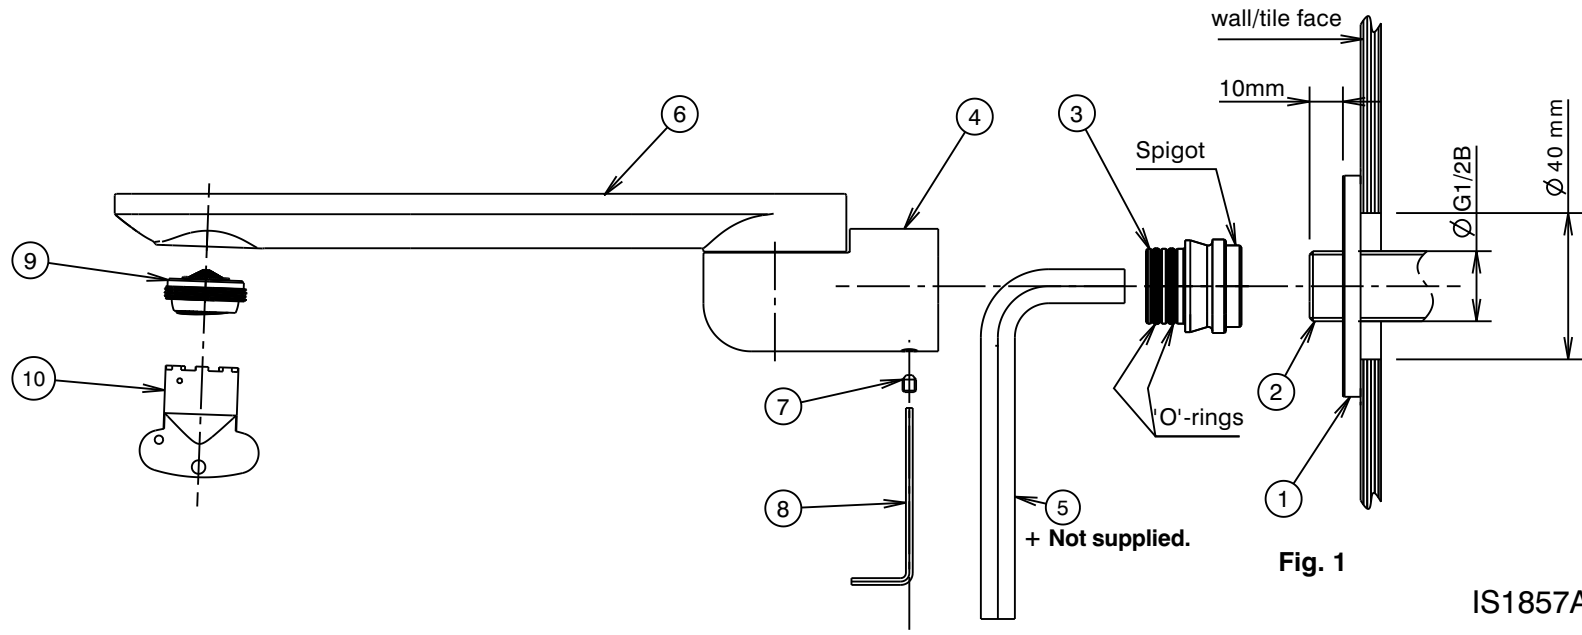

Fig. 1
- 1) Fit the cover plate (1) over threaded nipple (2) and check that the thread is the correct length, as shown (Fig.1). Cut to length if required ensuring end face is square. Apply thread tape to the thread.